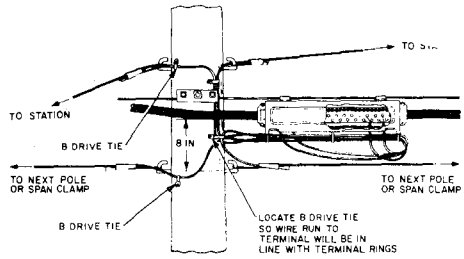

Fig. 5—Running Drop Wires to 61-Type Terminal
3.09 Refer to Fig. 5 for a typical arrangement of drop wires at a 61-type terminal.